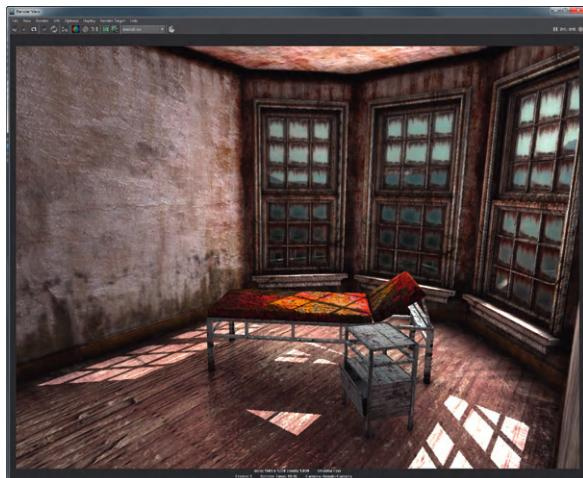

FIG 7.41 Additional shaders adjusted.
Step 25: Adjust the other objects in the scene to use alternate shaders as desired. Be sure to remember to use Specular maps to define what parts of objects should have reflectivity/specularity and which parts should be more matte. My solution is shown in Fig. 7.41.